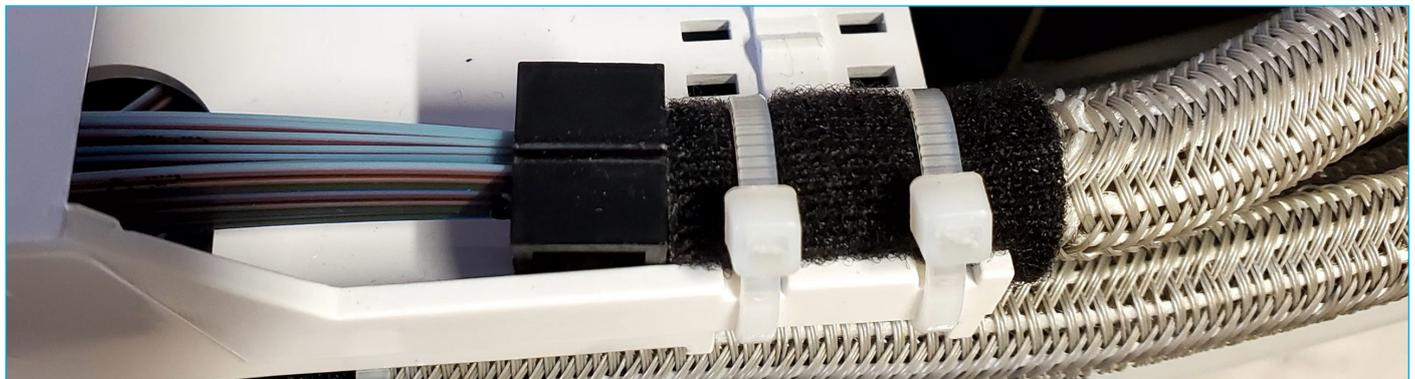

Figure 27
9.11 Wrap a piece of LBT tape over the sleeving and secure to the splice tray with tie wraps (Figure 27).